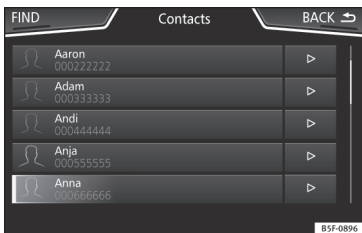

Fig. 229 Contacts Menu.
- Press the **Search** function button » Fig. 229 to open the search window.
- Press the function button ▷ » Fig. 229 located next to the entry on the contacts list.